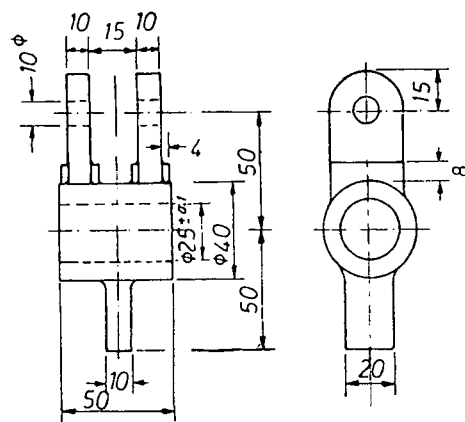

Fig.12.a
12.b Design a drilling jig for use when drilling the $\phi 12$ holes in the component shown in Figure. 12.b, 16